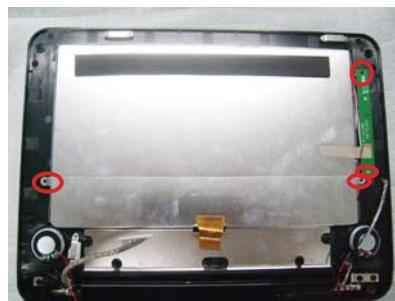

Fig.5
5. Remove screws to remove display frame shade(base) and backlight board as Fig.5.